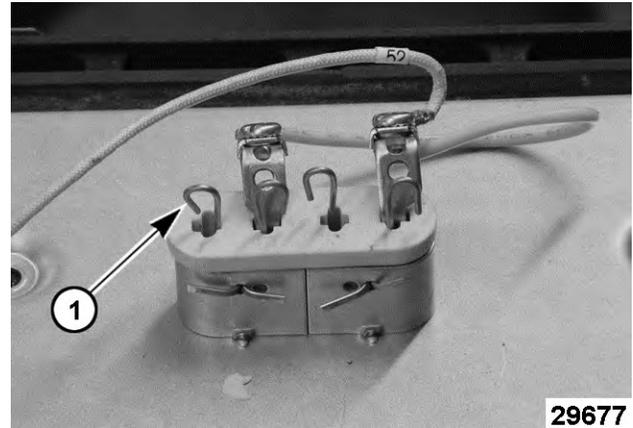

Fig. 20
5. Bend hooks inward slightly (1, Fig. 20) then remove electrical connections.